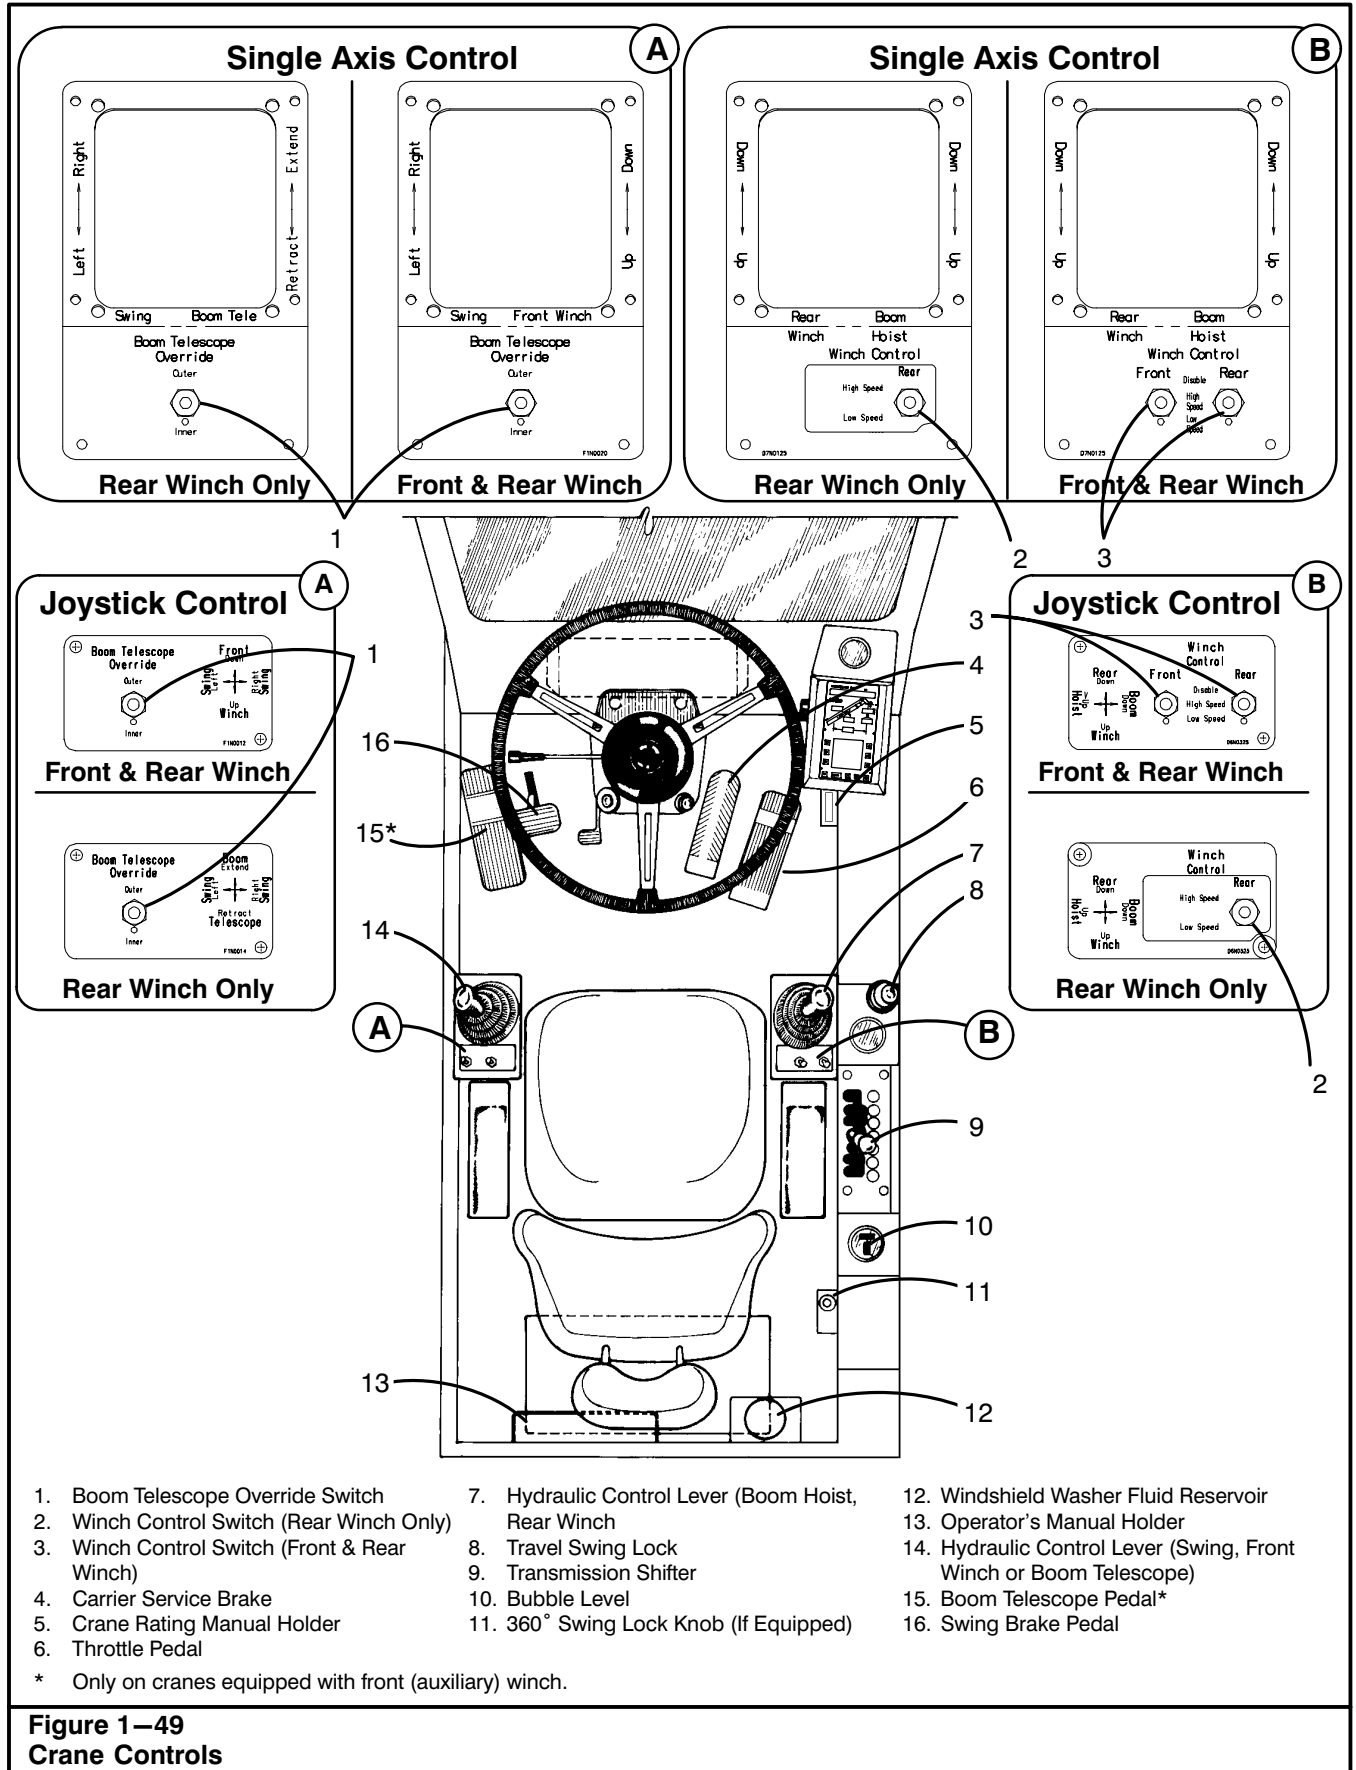

Figure 1—49
2. Flip the swing park brake toggle switch on the control panel to the "RELEASE" position. The indicator light will go out. Refer to Figure 1–33 for toggle switch and indicator light location.
2. Flip the swing park brake toggle switch on the control panel to the "APPLY" position. Indicator light will illuminate. Refer to Figure 1–33 for toggle switch and indicator light location.